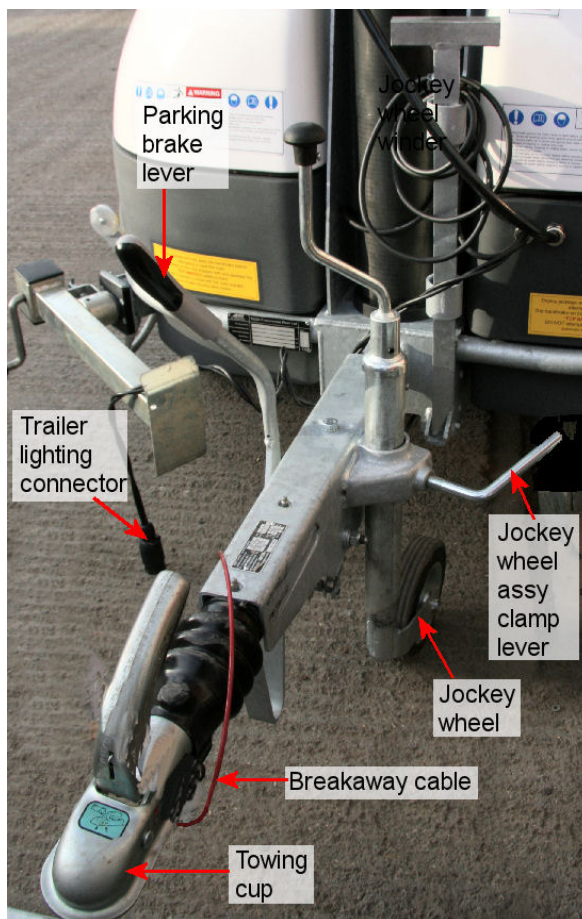

Fig 2-2 Parking brake
9. Apply the parking brake by pulling up the lever (Fig 2-2). The mast cannot be raised unless the brake is on.